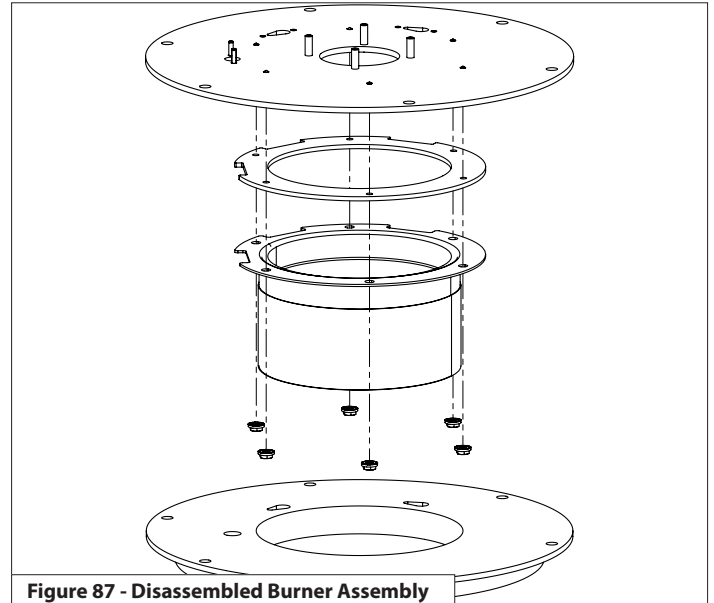

Figure 87 - Disassembled Burner Assembly
- Reassemble the burner assembly. Ensure the components are installed as described in Figure 87.